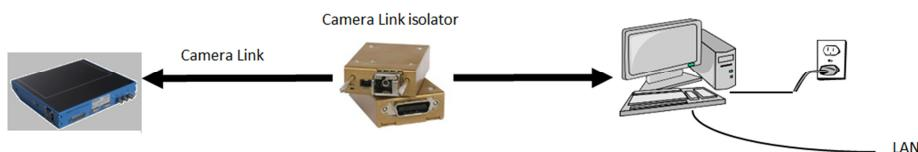

Figure 23: Camera Link isolation
- Electrical isolation of the Camera Link signals (Figure 23 below)